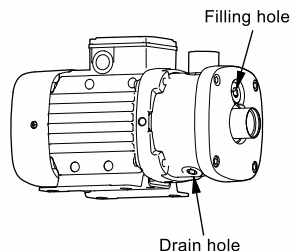

Fig. 11 Position of filling hole and drain hole
3. Remove the filling plug. See fig. 11.